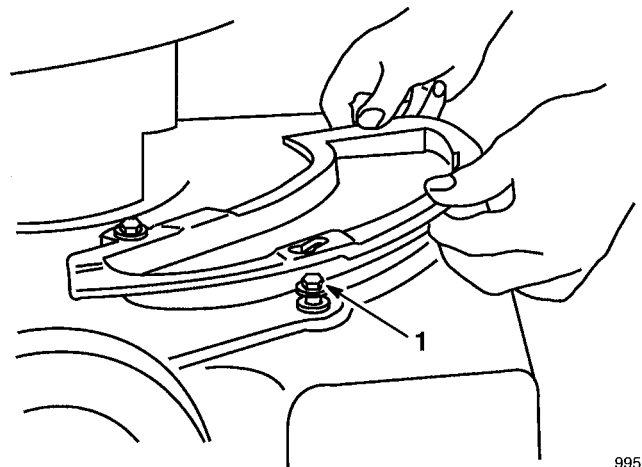

Figure 5
3. Two shoulder bolts on the housing protrude through slotted holes in the cover plate and do not have to be loosened or removed. Cover plate moves over the shoulder bolt heads (Fig. 5).